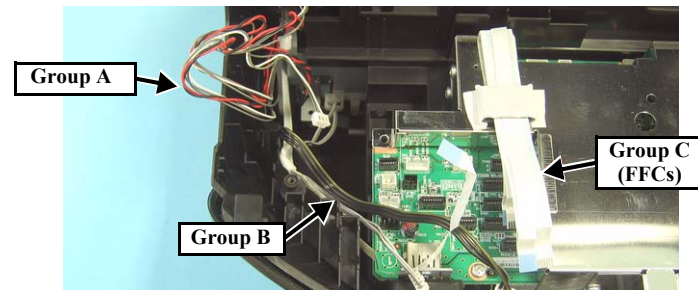

Figure 4-18. Separating the cables and FFCs
3. Separate the cables and FFCs into three groups, A, B and C. (Fig. 4-18)